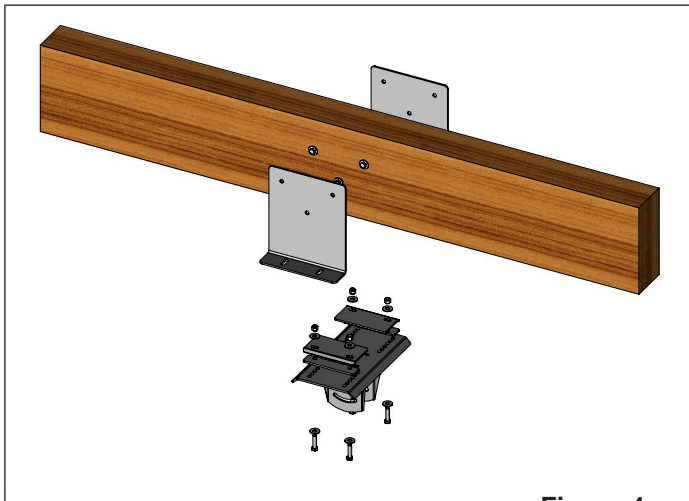

Figure 4
1. Through-bolt the laminated beam brackets with 1 bracket on each side of the laminated (or concrete) beam (Figure 4).